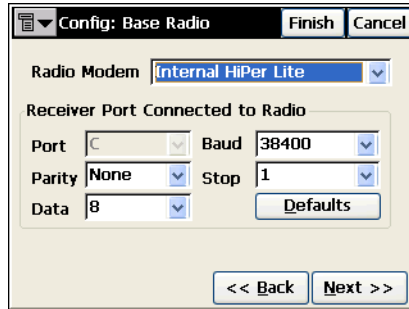

Figure 2-22. Config: Base Radio
- **Next**: opens the *Config: Base Radio* screen (Figure 2-22 on page 2-20).
- **Next:** opens the *Config: Base Radio* screen (Figure 2-22 on page 2-20).